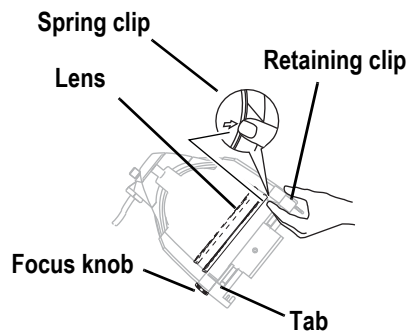

Figure 6
- Step 3: Tilt the front of the luminaire down at least 45°. See Figure 6.